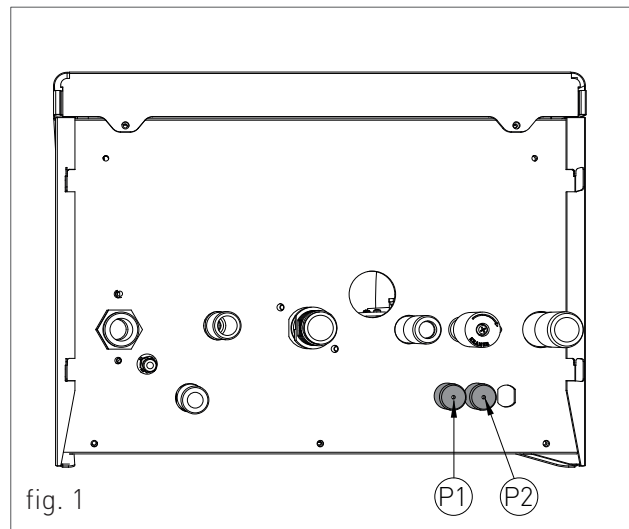

fig. 1
The cables should be inserted inside the boiler using the fairleads 'P1' and 'P2' placed on the hydraulic connections bottom plate (see fig. 1). Make a hole on the fairlead, smaller than the cable diameter, to make sure that the air cannot pass through.
- › When a vertical flue system is installed, insert a condensate drain siphon at the base of the pipe, connected to the house/building sewage system (fig. 1).
For this type of boiler, the following flue exhaust configurations are available: A3, B23, B23p, B33, B53 and C13 (see Fig. 1).